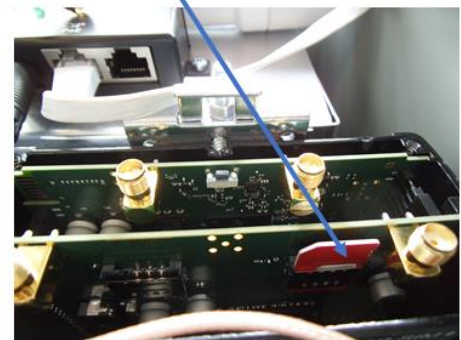

Figure 4 : inserting SIM card
2. Open the enclosure and use the Ethernet cable to connect to your Laptop in order to configure the IoT Gateway and get it ready for remote monitoring ,as well to insert SIM card. use a screwdriver to remove the black lid and properly insert the SIM card(Figure 4)